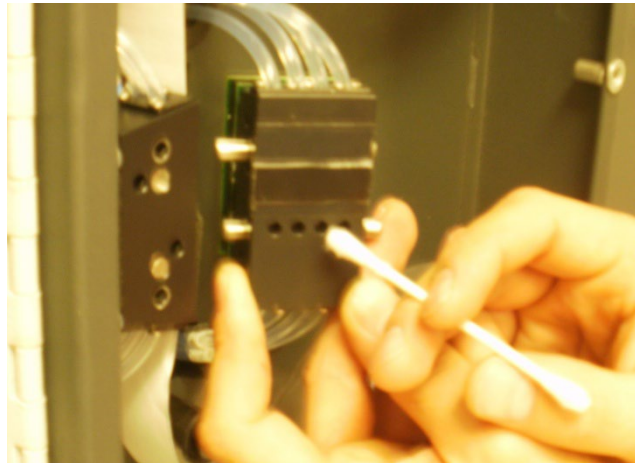

Figure 6
- 2) Using a cotton swab and alcohol (you may have to trim the cotton swab to fit) clean each channel that has a DAC above 140. (Figure 6)